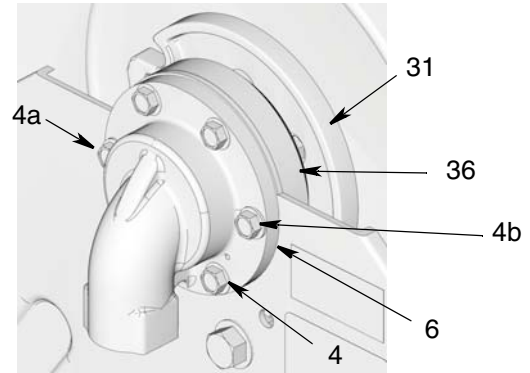

FIG. 21
4. Align shim (36) between inlet (6) and bearing retainer (35) (FIG. 21).
5. First install the side 2 bolts (4a and 4b) as shown in FIG. 21 through frame and inlet (6). Tighten bolts just enough to hold everything in place.
6. Then install the remaining four bolts (4). Hand tighten and then torque all bolts to 25 to 35 ft. lbs (33.9 to 47.45 N•m).